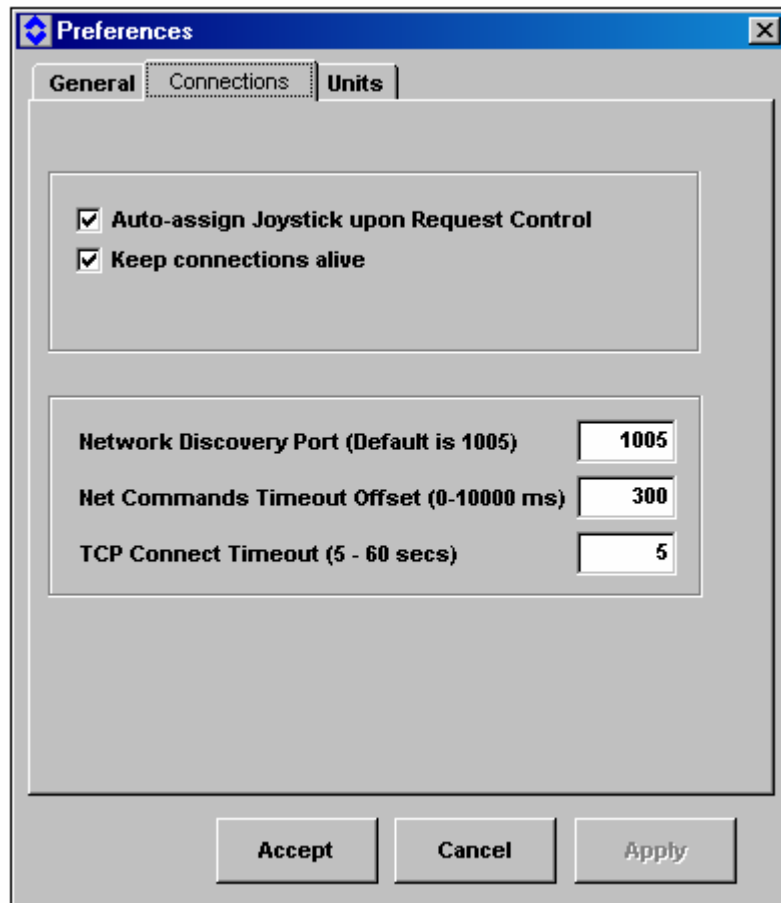

Figure 33 – Preference Connections tab
- ii) The connections tab, allows the operator to configure the system to automatically assign the joystick to the console requesting control. Network discovery port and various system timeouts are also displayed in this window. See Figure 33 – Preference Connections tab.